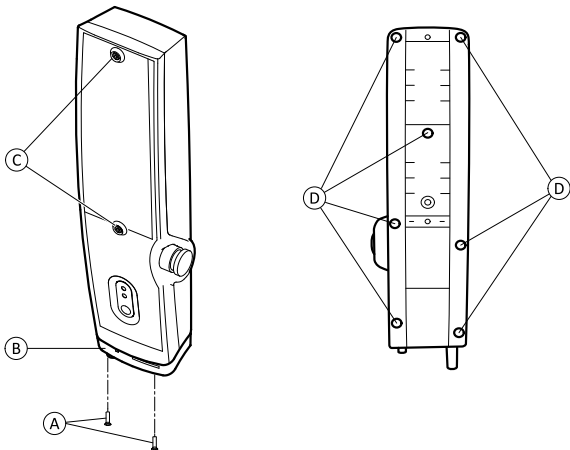

Figure 1
3. Unscrew seven screws **D** on the rear and remove back cover. See figure 1.